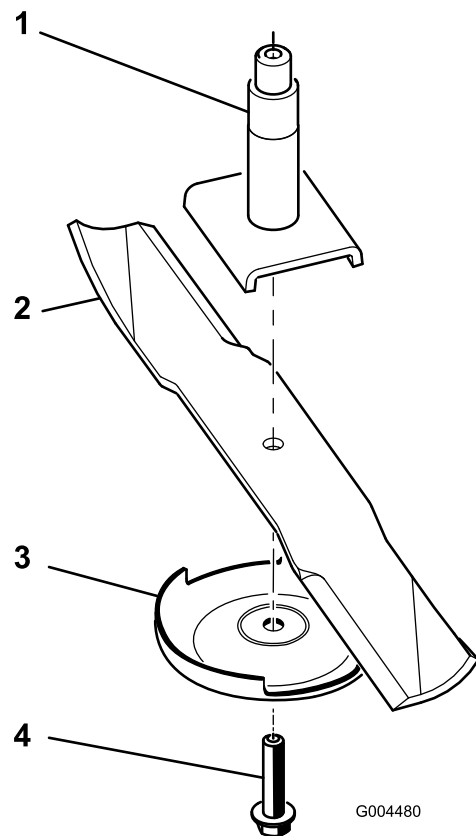

Figure 28
2. Remove the blade bolt, the anti-scalp plate, and the blade from the spindle shaft (Figure 28).
Note: If the blade stays in a horizontal position, the blade is balanced and can be used. If the blade is not balanced, file some metal off the end of the sail area only (Figure 28). Repeat this procedure until the blade is balanced.
1. Install the blade onto the spindle shaft (Figure 28).
2. Install the anti-scalp plate and blade bolt (Figure 28).